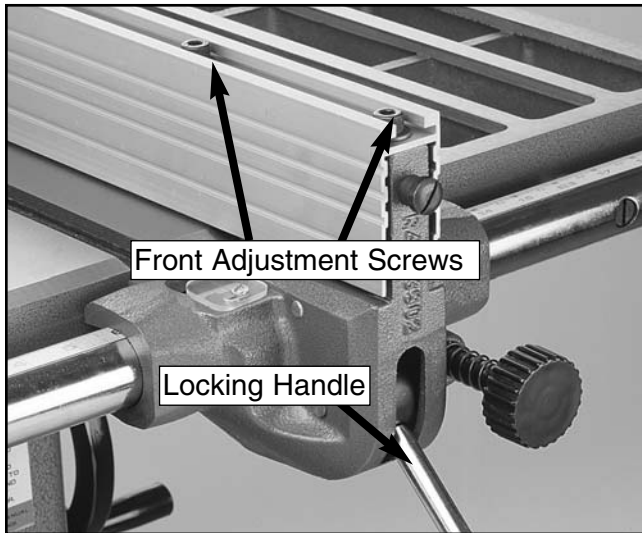

Figure 32. Adjustment bolts for fence parallelism.
- Loosen the locking handle (**Figure 32**) until it is approximately two-thirds engaged.